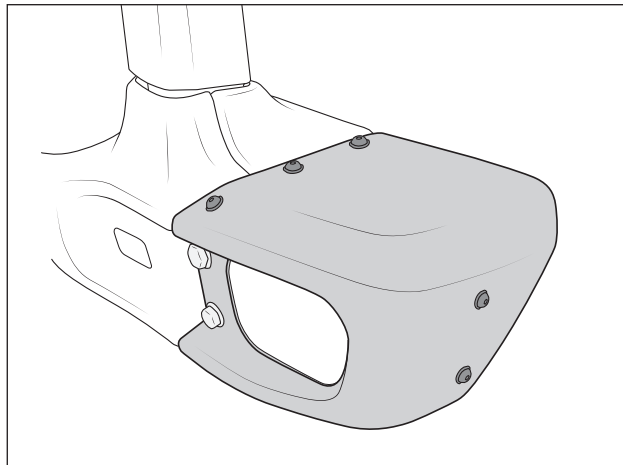

Figure 24
- E. Install black M8x25mm button head bolts with washers into each of the 3 holes along the top of the corner stamping and 2 holes through side of corner and fairlead stampings. Start with front holes that install into the cage nut, then the 2 rear holes that pass through the tube closeout stampings and reinforcement brackets with black flange nuts loosely installed. A slipper bar may be helpful to align all the holes during bolt installation (fig. 24). Side holes pass through corner and fairlead stampings and are also retained with black flange nuts. Snug all hardware but do not fully torque yet.